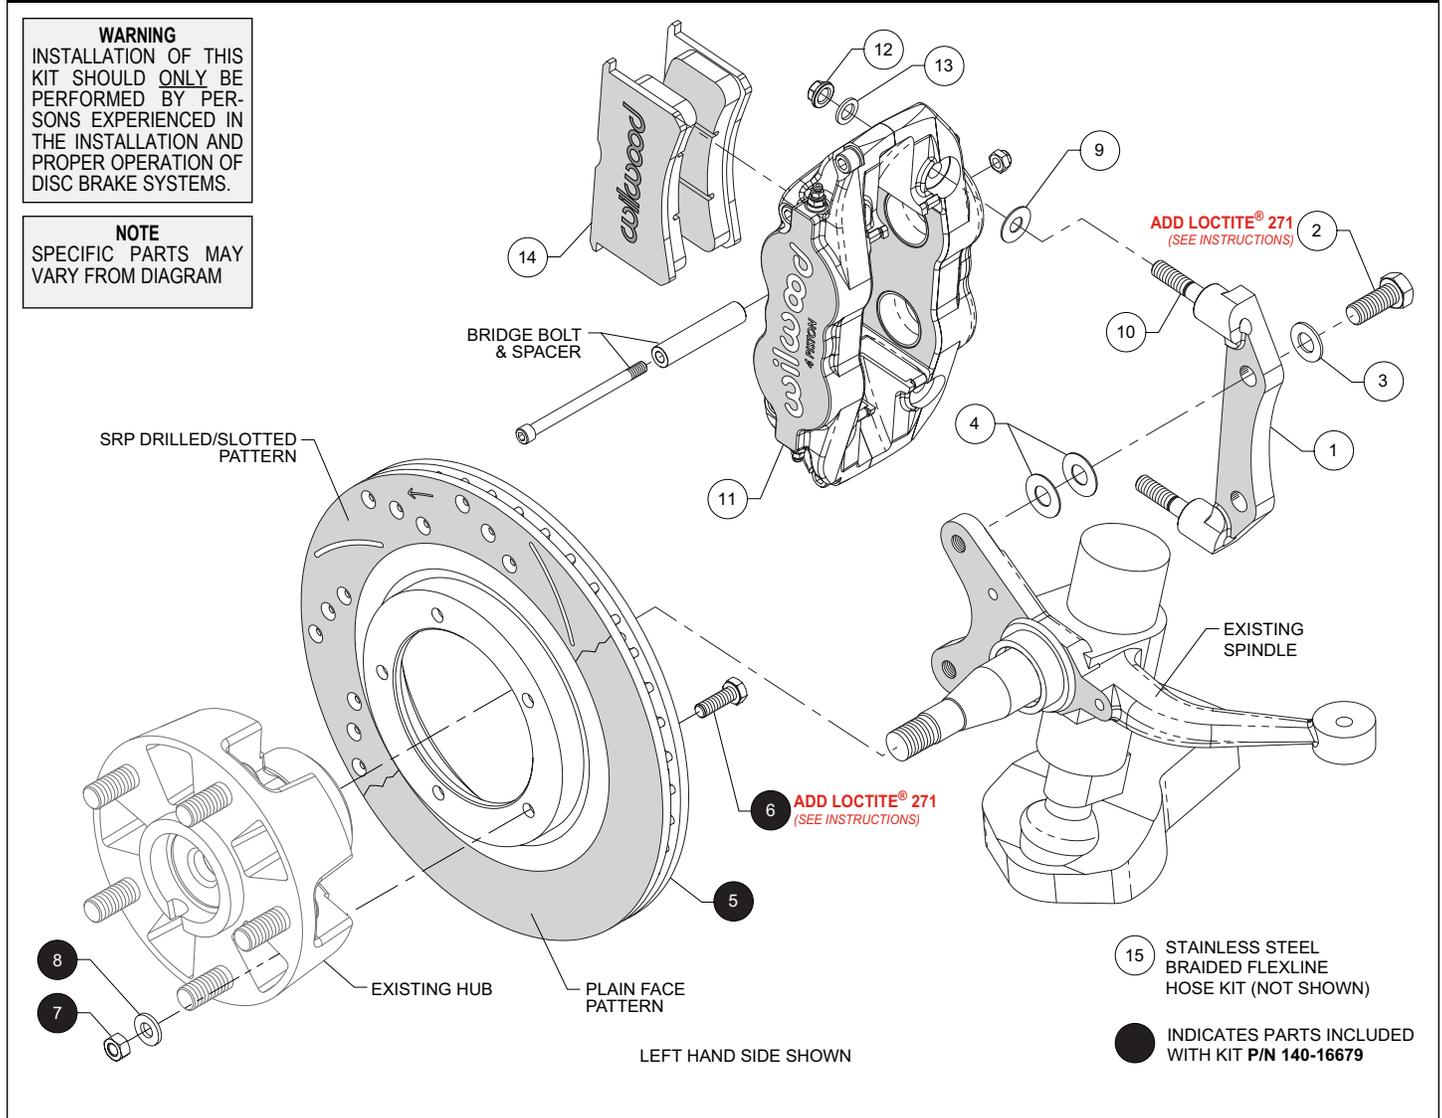

Figure 1. Typical Installation Configuration
**NOTE:** Numbers in parenthesis refer to the parts list and Figure 1 on the preceding pages.
•The caliper mount bracket (1) should initially be installed with clean, dry threads on the mounting bolts. Orient the bracket, as shown in Figure 1 and Photo 1, and install using bolts (2) and washers (3). Initially place two .033" thick shims (4) on each bolt between the bracket (1) and upright, Figure 1 and Photo 2 (see arrows). Temporarily tighten the mounting bolts. **NOTE:** The bracket must fit squarely against the mount bosses on the upright. Inspect for interference from casting irregularities, machining ridges, burrs, etc. Later, after the caliper alignment has been checked, the mount bolts will be secured using red *Loctite*® 271.
•For kit **140-16679**, orient the Wilwood rotor (5) and the existing hub as shown in Figure 1 and Photo 3. Attach rotor to hub assembly using bolts (6), nuts (7), and washers (8). Using an alternating sequence, apply red *Loctite*® 271 to the bolt threads, and torque nuts to 25 ft-lb. Slide the hub/rotor assembly onto the spindle. Adjust bearings per OEM specifications.
•Initially place one .035" thick shim (9) on each stud (10) between the caliper (11) and the bracket (1), as shown in Figure 1 and Photo 4. Mount the caliper (11) onto the bracket (1) using lock nuts (12) and washers (13), Figure 1. Temporarily tighten the lock nuts. View the rotor through the top opening of the caliper. The rotor should be centered in the caliper, Photo 5. If not, adjust by adding or subtracting shims (4) between the bracket and the upright. Always use the same amount of shims on each of the two mounting bolts. Once the caliper alignment is correct, remove the bracket mounting bolts (2) one at a time, apply red *Loctite*® 271 to the threads, and torque to 60 ft-lbs.